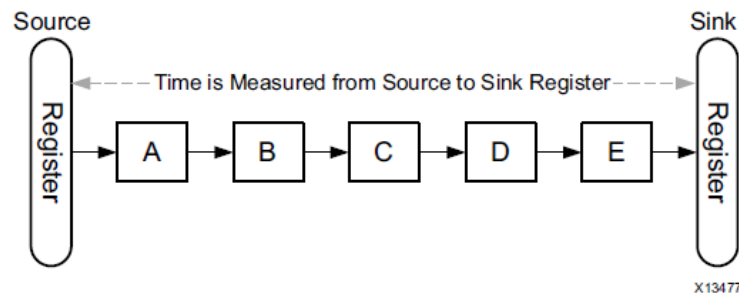

Figure 3-5: FPGA Implementation without Pipelining
- Figure 3-5 requires 10 ns between input samples,